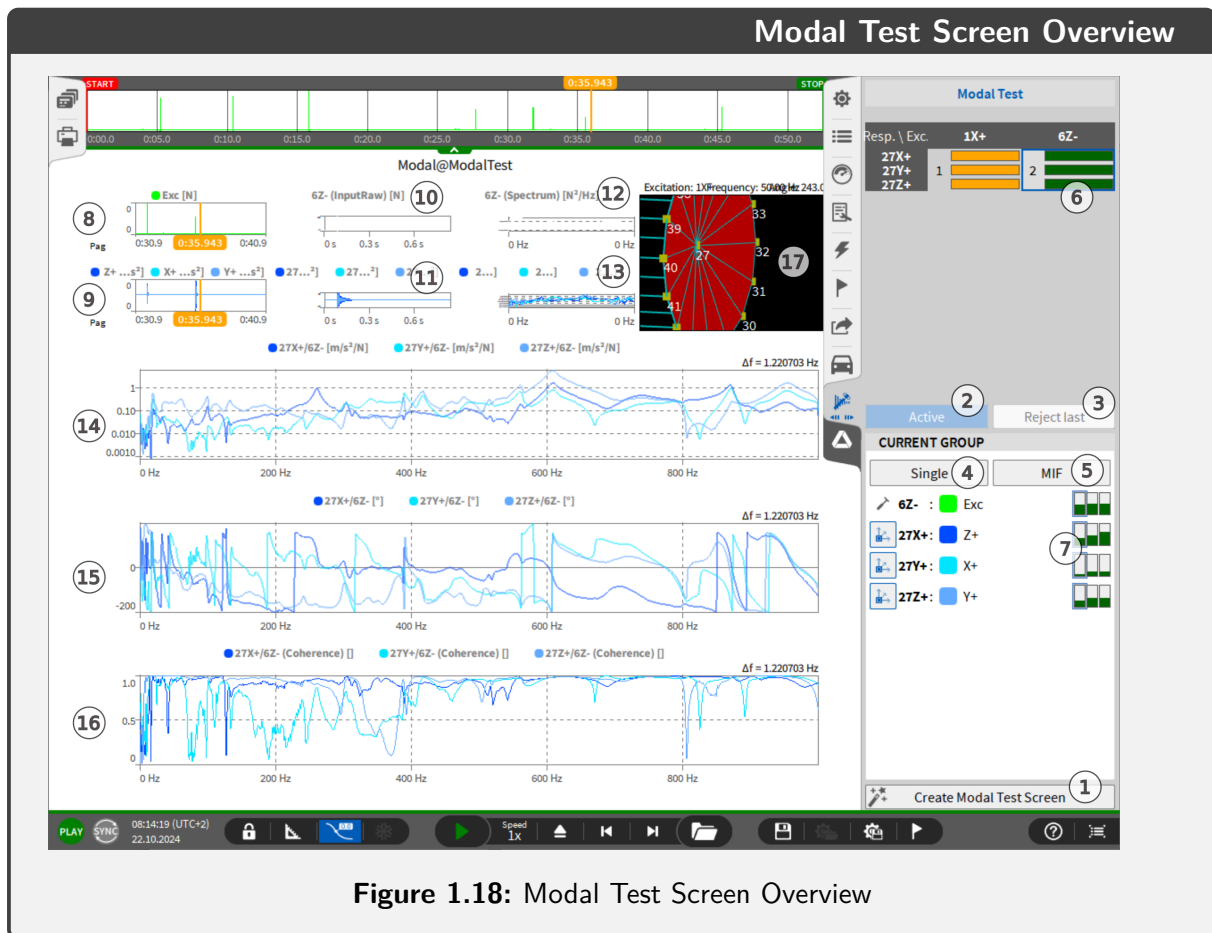
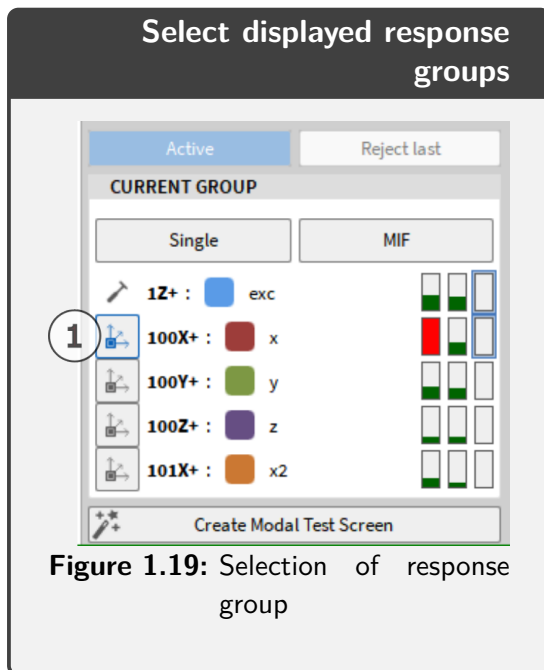

Figure 1.18: Modal Test Screen Overview
Figure 1.19: Selection of response group
On the measurement screen, the modal test screen can be added for visualization, recording and navigation of the modal test. To create this screen click on the "Create Modal Test Screen" button (1), see Figure 1.18. This screen always displays the data of the active excitation group (6). The following items (1) - (17) can be found in Figure 1.18.
| | (17) Modal Shape animation: Animation of the modal test object for a specific frequency. See Figure 1.18 for detailed useage. |
The individual response groups can be hidden, shown in figure 1.19 (1) where a click on the axes symbol toggles the displayed data in the amplitude response, seen in figure 1.18 (14), the phase shift response (15) and the coherence function (16). In the first excitation of this group, the x response bar is displayed as red. This indicates an exceeding of the sensor range. Further details are described in the operation basics chapter.
The data which is displayed in the modal test screen instruments be further customized. For example the bode diagram can be changed to show real part of the vibration instead of the amplitude. To revert to the default template, just click again on the "Create Modal Test Screen" button (1) in figure 1.18, which adds a new screen based on the default modal test screen template. To further edit the modal test screen, the instrument group can be dismantled and changed to the preferred instruments. Click on the modal test group followed by clicking on dismantle (2) in the properties.